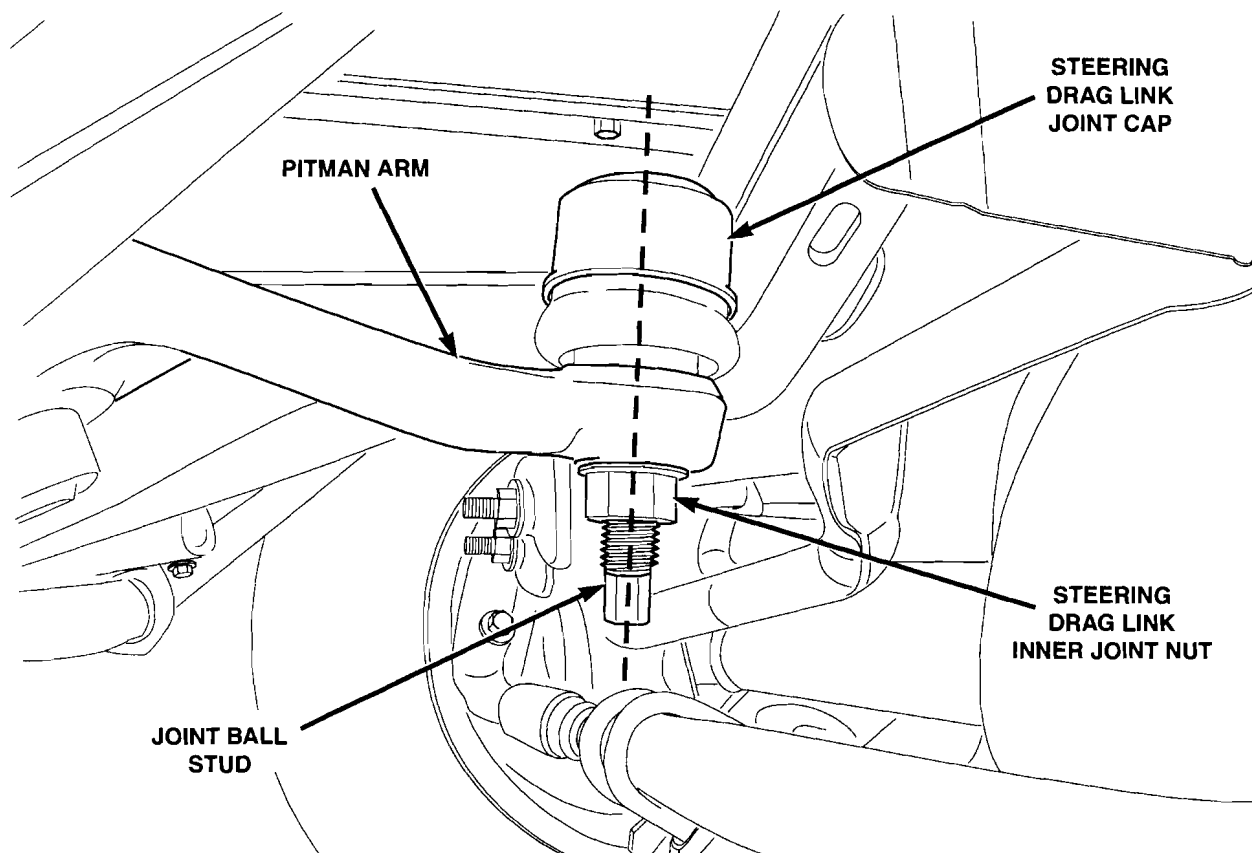

Figure 6
- h. With the wheels in the straight ahead position, make sure that both inner and outer steering drag link joint caps are centered over the joint ball stud (Figure 6).